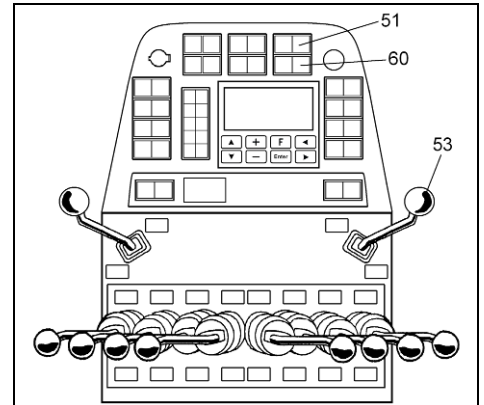

Fig. 4.18/1
Never drive in the public traffic without bolting device of the fall adjustment (Refer to item 4.18.3, fig 4.18/3).